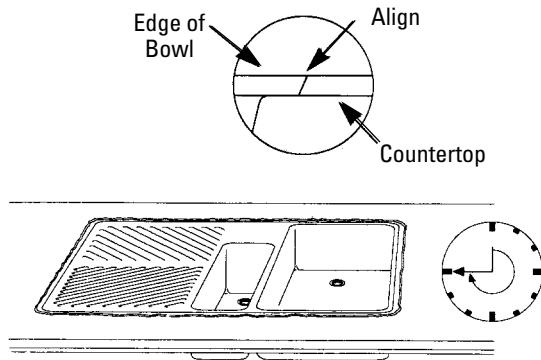

Figure 9
- Make sure that the bowl edge is the same height on all sides (see Figure 9).